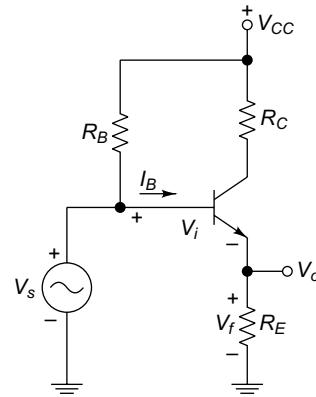

Fig. 2.49
16. Figure 2.49 shows a BJT amplifier circuit. What type of feedback topology is used in this circuit? Calculate the gain,